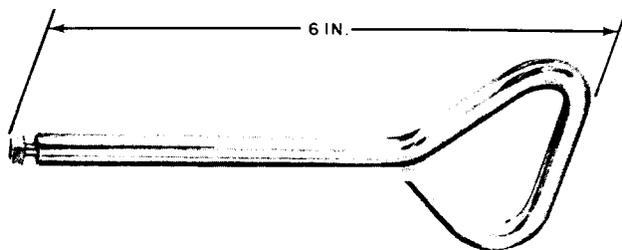

Fig. 9—KS-19099, L2, Extractor
2.10 KS-19099, L2: The KS-19099, L2, extractor (Fig. 9) is used to remove packaged semiconductor amplifiers from L-type multiplex equipment.